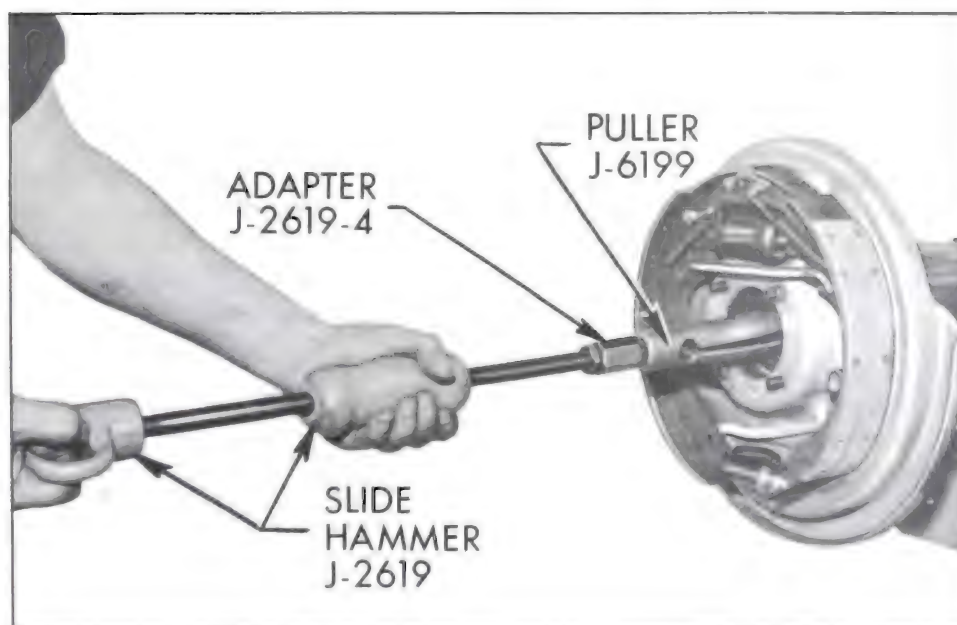

Figure 6-9—Removing Axle Shaft Oil Seal
1. To remove oil seal, insert Puller J-6199 just through seal and expand. Pull seal with a slide hammer. See Figure 6-9.